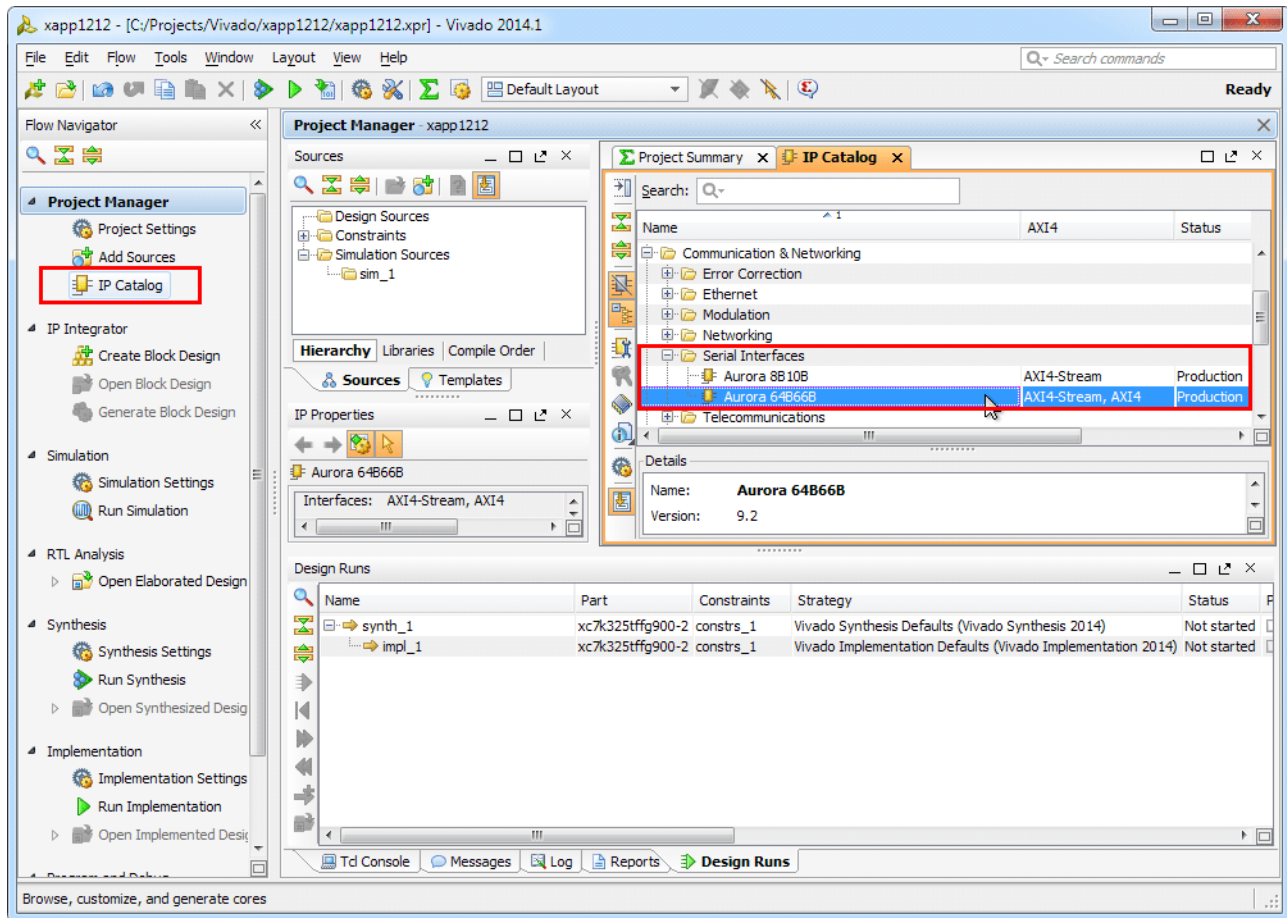

Figure 6: Aurora 64B/66B Core in IP Catalog
7. Under Project Manager in the Flow Navigator panel, select **IP catalog** and search for **Aurora 64B66B**. The Aurora cores can be found under **Communication & Networking > Serial Interfaces** (Figure 6).